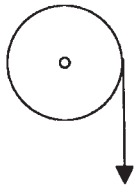

Figure 5.5 Problem 15
- 15 A cord is wrapped around a wheel of diameter 400 mm which is initially at rest (Figure 5.5). When the cord is pulled, a tangential acceleration of 4 m/s^2 is applied to the wheel. What is the angular acceleration of the wheel?